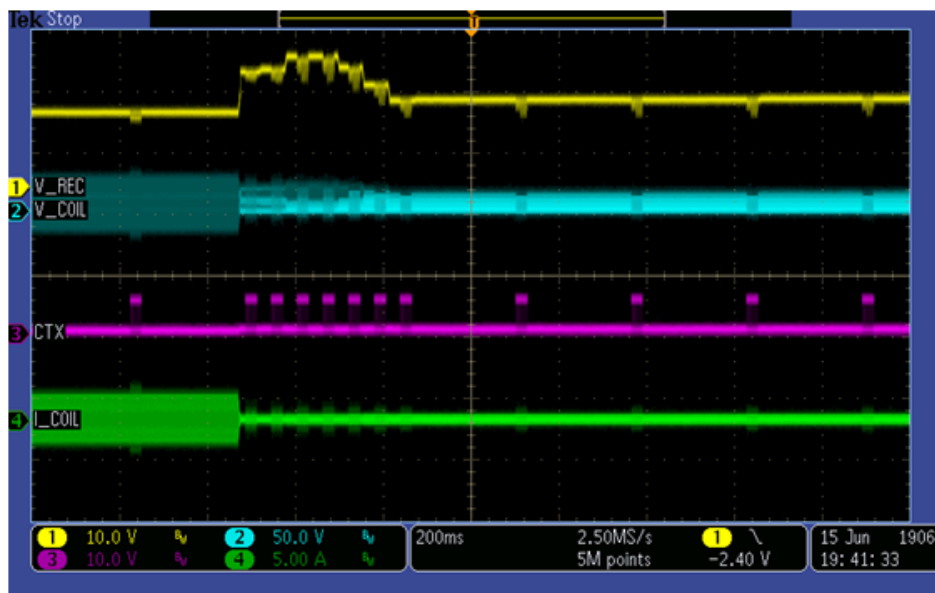

Figure 28. System response for reducing the load from 3 A to 0 A
- System response measurement for reducing the load from 3 A to 0 A is shown in Figure 28.